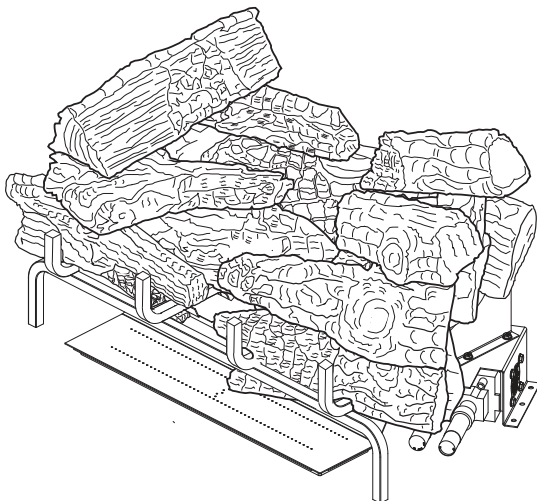

Figure 32 - Final Assembly
- Final Assembly is shown in **Figure 32, Page 20**.